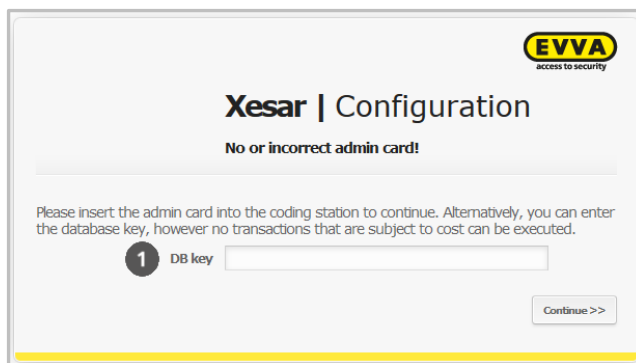

Figure 46: DB key
If you have not connected your Xesar coding station, your Admin Card is faulty or not available, the system shows the "Xesar | Configuration" (Figure 46: DB key) application window allowing you to enter the DB key to continue. Note that you will be unable to grant authorisations to persons/identification media without an Admin Card.
The DB key ❶(Figure 46: DB key) is the automatically generated code included with your access data (see ***Backing up access data*** and DB key).